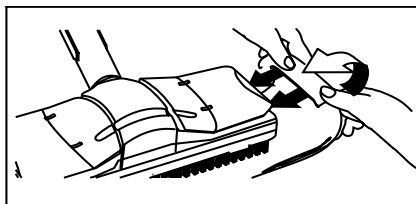

Figure 9
- ➔ Attach the floorcloth (H3) to the floor nozzle (H1). Fold up the floorcloth lengthways, and place the floor nozzle on the cloth. Pull the jutting out ends of the floorcloths one after the other under the retaining clips (H2) (see Fig. 9 ).